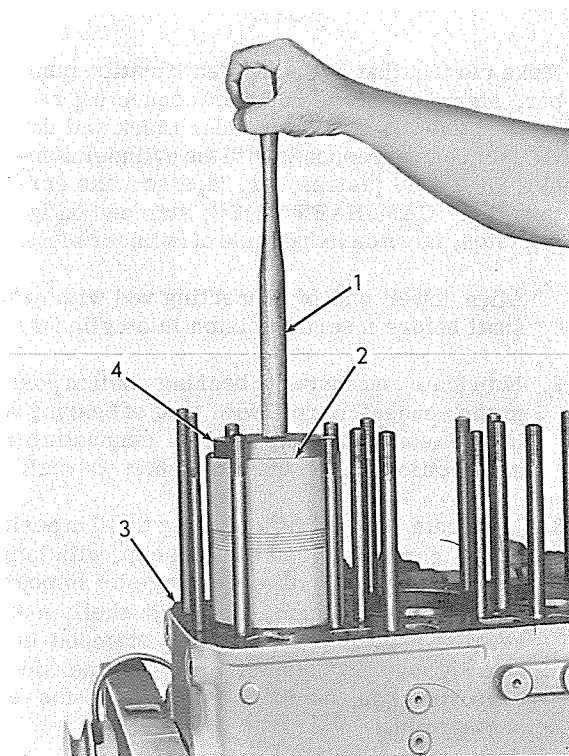

Fig. 5 — Installing Piston Assembly In Cylinder Sleeve (T-20225)
1. Stagger piston ring gaps evenly around piston and apply clean engine oil to pistons and rings. With a piston inserter similar to the one shown in Fig. 5, install the piston and connecting rod in the cylinder sleeve by tapping on top of piston with wooden handle of a hammer. If any difficulty is encountered, however slight, the piston inserter must be removed and ring set inspected for correct installation in piston grooves.